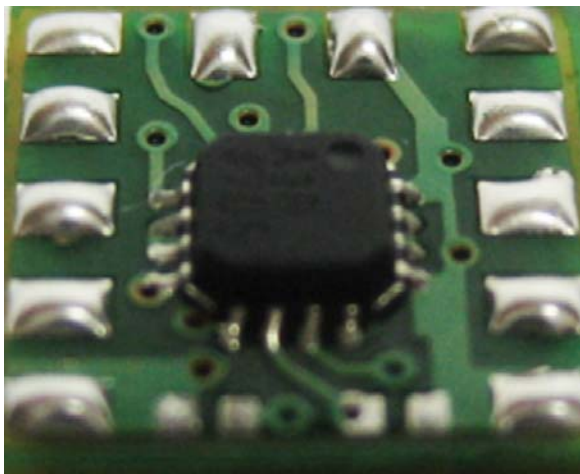
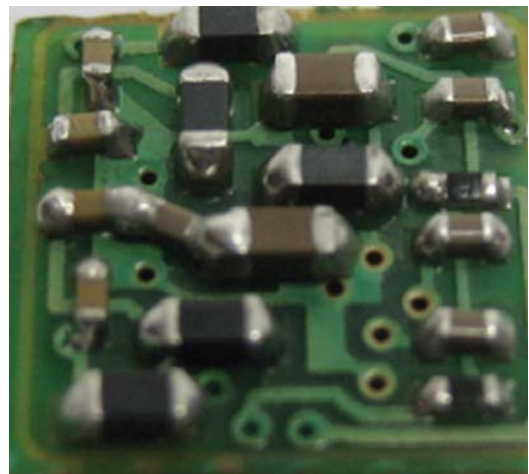
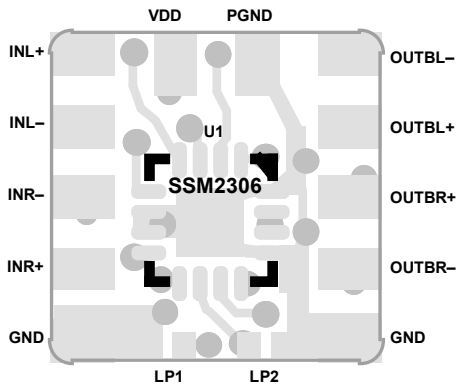
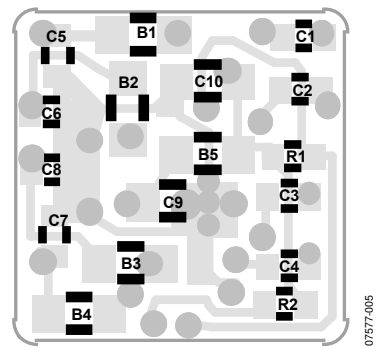

Figure 1. SSM2306 Mini Evaluation Board, Top View
Figure 2. SSM2306 Mini Evaluation Board, Bottom View
Figure 4. Top Layers of the Evaluation Board
Figure 5. Bottom Layers of the Evaluation Board
The SSM2306 mini evaluation board carries a complete application circuit for driving a stereo loudspeaker. Figure 1 shows the top view of the PCB, and Figure 2 shows the bottom view of the PCB. The top silkscreen layer of the evaluation board is shown in Figure 4 with other top layers, including top copper, top solder mask, and multilayer vias. The bottom silkscreen layer of the evaluation board is shown in Figure 5 with other bottom layers, including bottom copper, bottom solder mask, and multilayer vias.
On the left side of the SSM2306 mini evaluation board are five solder pads for the input audio signal: INR+ and INR– for the right channel, INL+ and INL– for the left channel, and GND (see Figure 4). The evaluation board uses INx+ and INx– to receive audio signals from common appliances, such as DVD players, PCs, and TVs.
1. Place nine vias onto the thermal pad of the amplifier. The outer diameter of the vias should be 0.5 mm, and the inner diameter should be 0.33 mm. Use a PCB area of at least 2 cm² or an equivalent area on the back side of the PCB layer as the heat sink (see Figure 4 and Figure 5). If internal layers are available in the PCB, allocate an area as large as possible to the ground planes and connect these vias to the ground planes.
9. Connect the GND pins, Pin 13 and Pin 16, to the thermal pad and place grounding vias, as shown in Figure 3 and Figure 4.
10. Use a solid polygon plane on the other side of the PCB for the area of the vias that are placed on the thermal pad of the chip. See Figure 4 or Figure 5. This polygon serves as both the EMI shielding ground plane and the heat sink for the SSM2306.